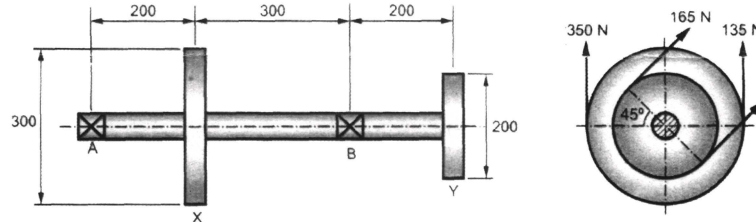

Fig.1
- Q2)** a) A steel shaft made of 40C8 is used to drive a machine. The pulley X, Y and bearings A, B is located as shown in fig.1. Determine the diameter of the shaft using ASME code. The yield strength of the shaft material is  $330 \text{ N/mm}^2$  and ultimate tensile strength is  $600 \text{ N/mm}^2$ . Take  $K_b = 1.5$ ,  $K_t = 1.2$ . [14]